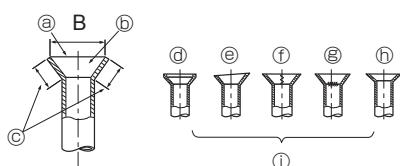
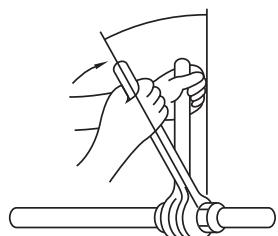

Fig. 5-7
Fig. 5-8
5.2.5. Check (Fig. 5-7)
- ⑧ Smooth all around
- ⑨ Inside is shining without any scratches
- ⑩ Even length all around
- ⑪ Too much
- ⑫ Tilted
- ⑬ Scratch on flared plane
- ⑭ Cracked
- ⑮ Uneven
- ⑯ Bad examples
- Apply a thin coat of refrigeration oil on the seat surface of pipe. (Fig. 5-8)